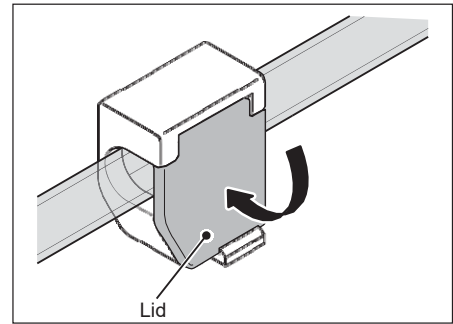

Figure 1-37
3. Close the lid of the clamp-on ABD/Flow sensor. (Figure 1-37)